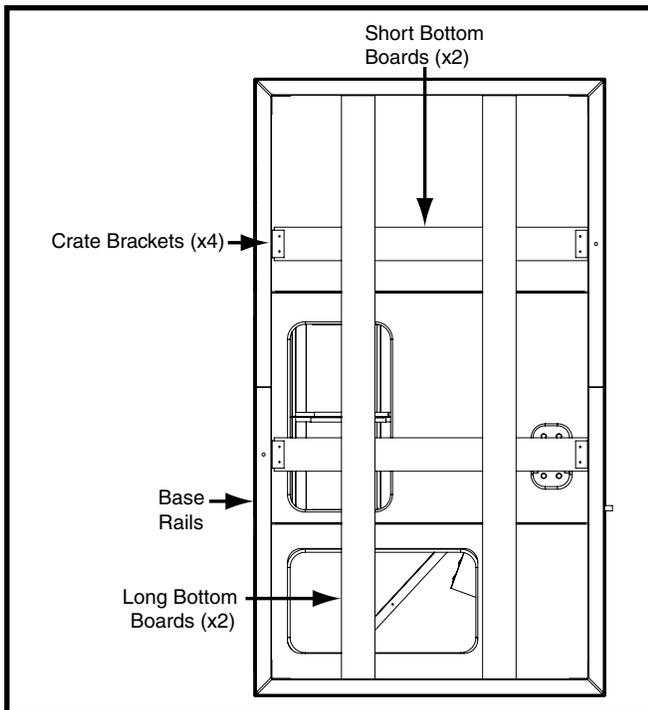

Figure 4. Bottom View
4. Remove crate brackets (Figure 4, page 5) securing long and short bottom boards to underside of unit. **NOTE:** Some screws are located in fork slots.